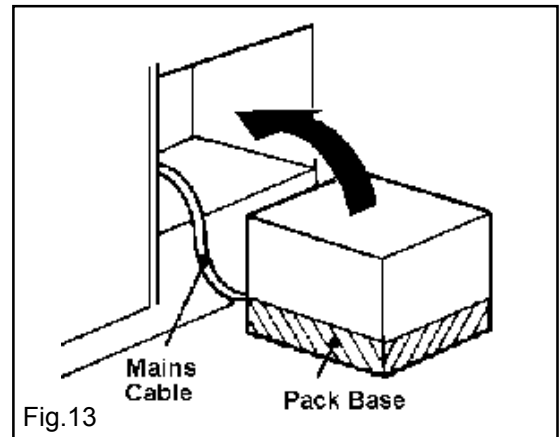

Fig.13
- Ensure the appliance is in front of the cabinet. See Fig. 13.